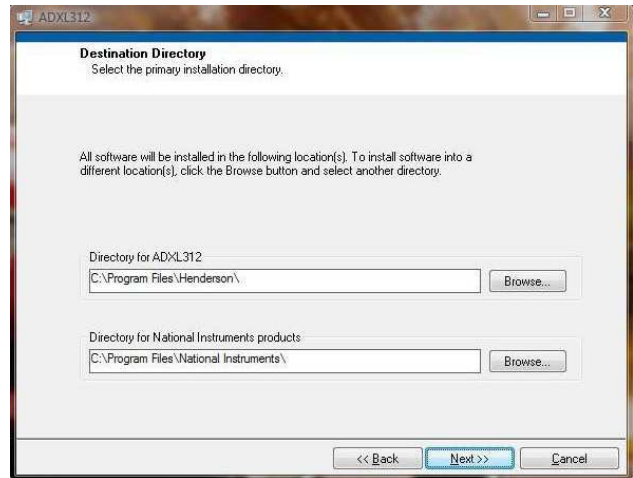

Figure 13. Destination Directory Selection
1. Select the **Destination Directory** (see Figure 13). It is recommended to keep the default settings for these fields.